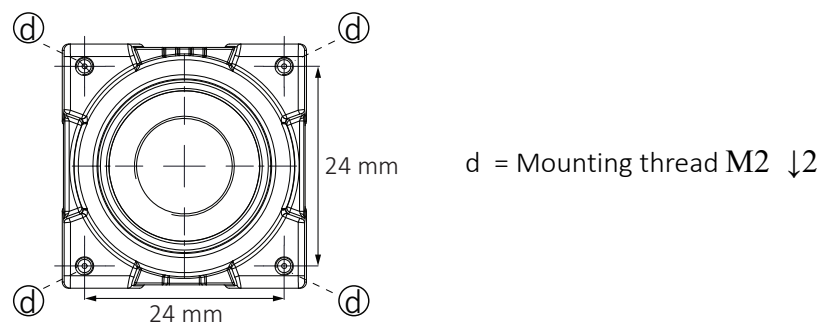

Figure 51: Camera front with mounting threads
1. Mount the camera to the base using suitable M2 screws at 0.18 Nm maximum torque for a thread engagement of 2 mm between screws and mounting threads, see Figure 51. For technical drawings, see Dimensions and mass on page 109.